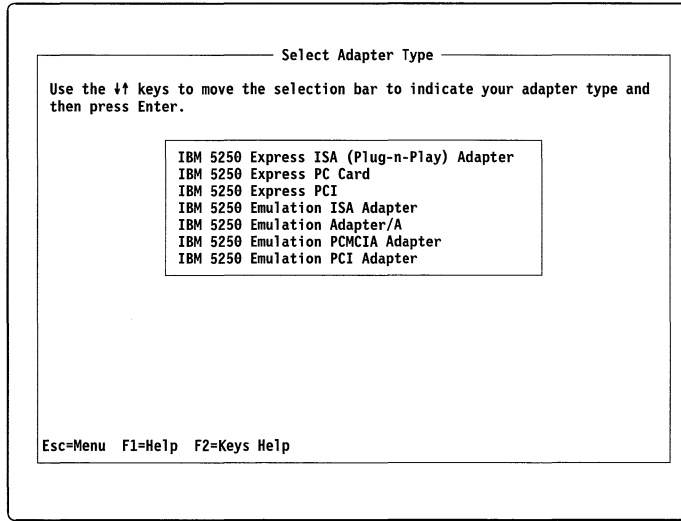

Figure 4. Select Adapter Type Screen
3. From the 5250 Adapter Configuration screen, select the Configure Adapter option. The Select Adapter Type screen, similar to the one shown in Figure 4, appears.